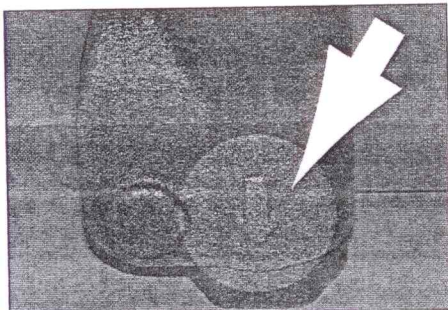

Figure 1
1. Install the Control Unit on the cold water supply piping with the arrow on the valve pointing in the direction of flow, towards the water heater. **Figure 1**